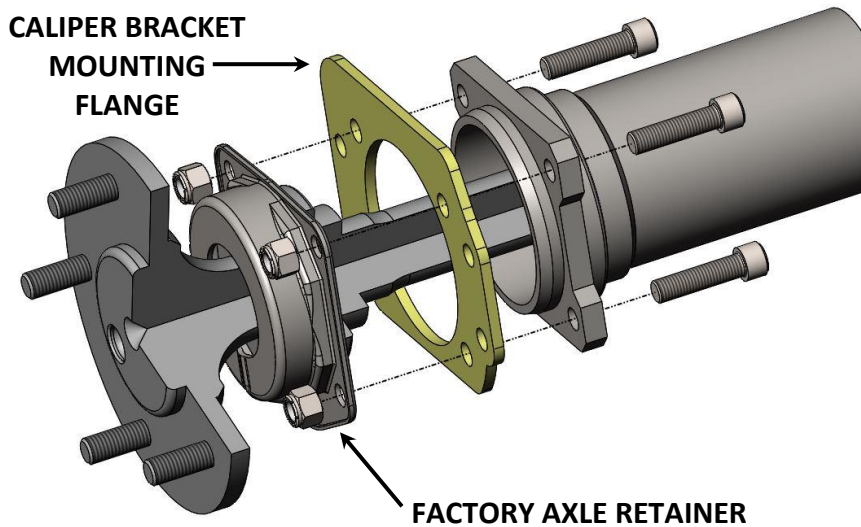
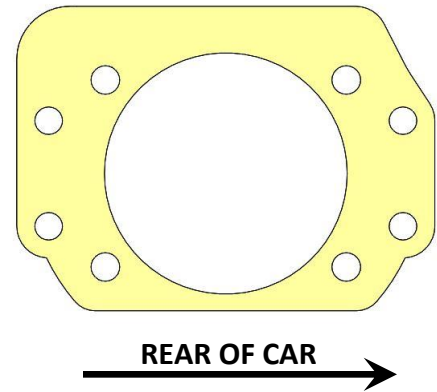

Figure 2 – Axle Installation with Caliper Bracket Mounting Flange
Figure 3 – Caliper Bracket Mounting Flange Orientation
5. Insert the supplied 3/8"-24 x 1.500" Socket Head Cap Crews into the axle housing. Once installed, position the Caliper Bracket Mounting Flange over the bolts and against the axle housing flange. Follow this by reinstalling the axle back into the axle housing, placing the factory bearing retainer over the installed bolts and securing it with the supplied 3/8"-24 Nylon Lock Nuts. Torque all of this mounting hardware to 40 lb/ft. Refer to Figures 2 and Figure 3 below for reference.